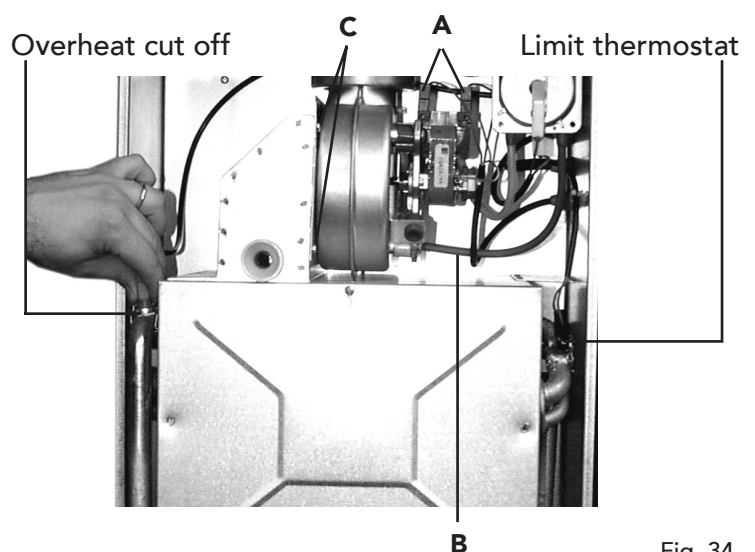

Fig. 34
7.09 Removal of fan (fig. 34)
7.10 Limit thermostat, or overheat cut off thermostat (fig. 34)